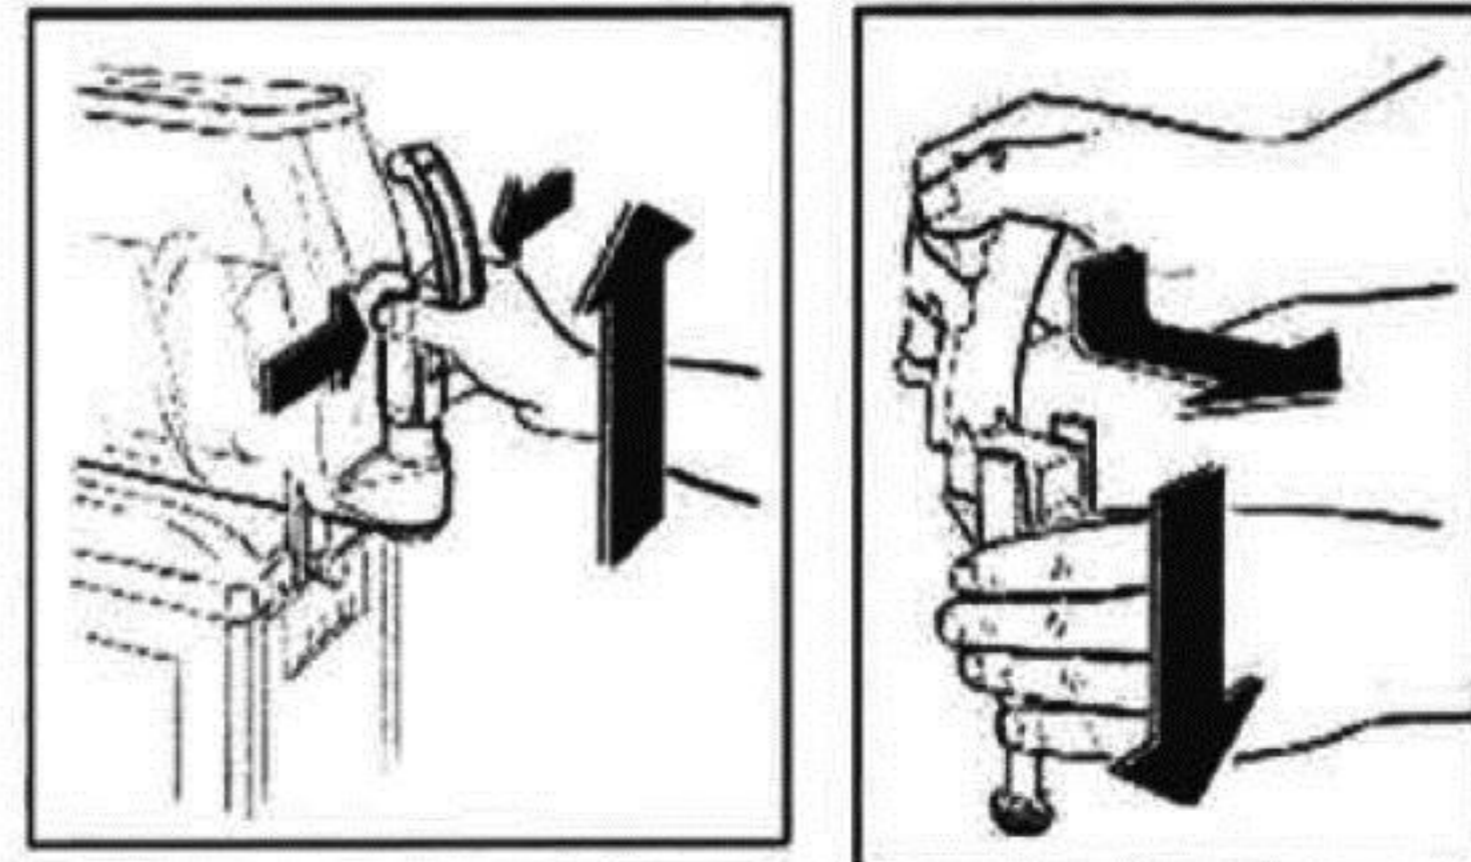

fig.29
- Simultaneously press the two securing tabs and lift the tap to extract it from its seat (see fig.29).